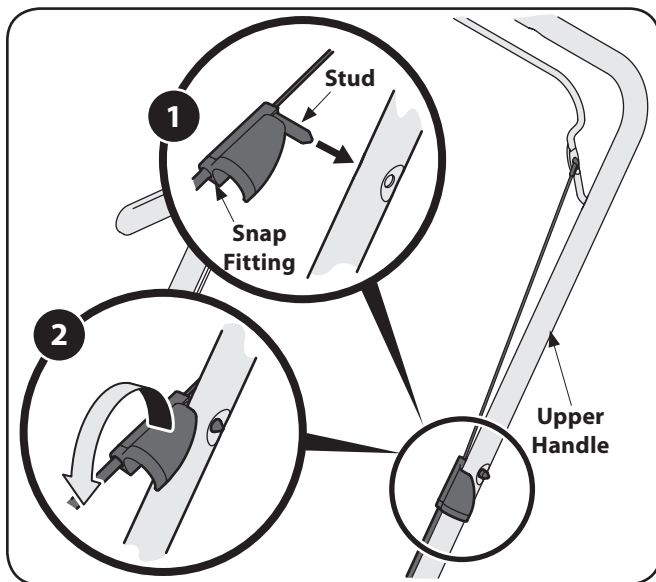

Figure 3-3
1. Press the stud found inside the snap fitting into the hole found on the left side of the upper handle, as shown in Figure 3-3.